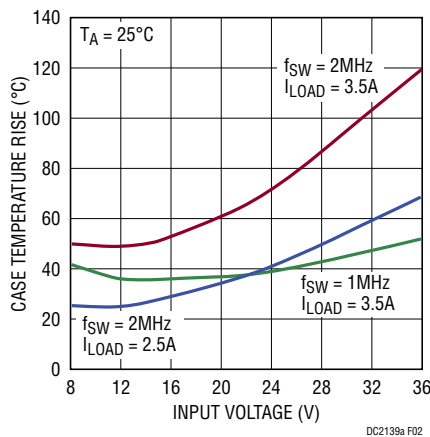

Figure 2. LT8610A Case Temperature Rise, $V_{OUT} = 5V$, $T_A = 25^\circ C$
Figure 2 shows the thermal performance of the circuit. When running at input voltage greater than 30V, 3.5A
*Refer to Figure 2 to determine the maximum input voltage. If IC temperature exceeds target, reduce input voltage, output current or switching frequency.